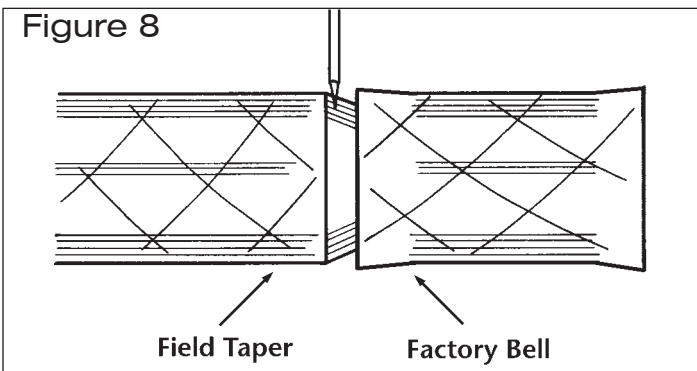

Figure 8
26. Mark the inside of the bell at the end of the pipe. Mark all the way around the end to check for "cocking" of the spigot. If it is impossible to reach into the bell, mark the outside diameter (O.D.) of the spigot end. Then, remove the spigot and measure the insertion length at the longest point. (See Fig. 8.)